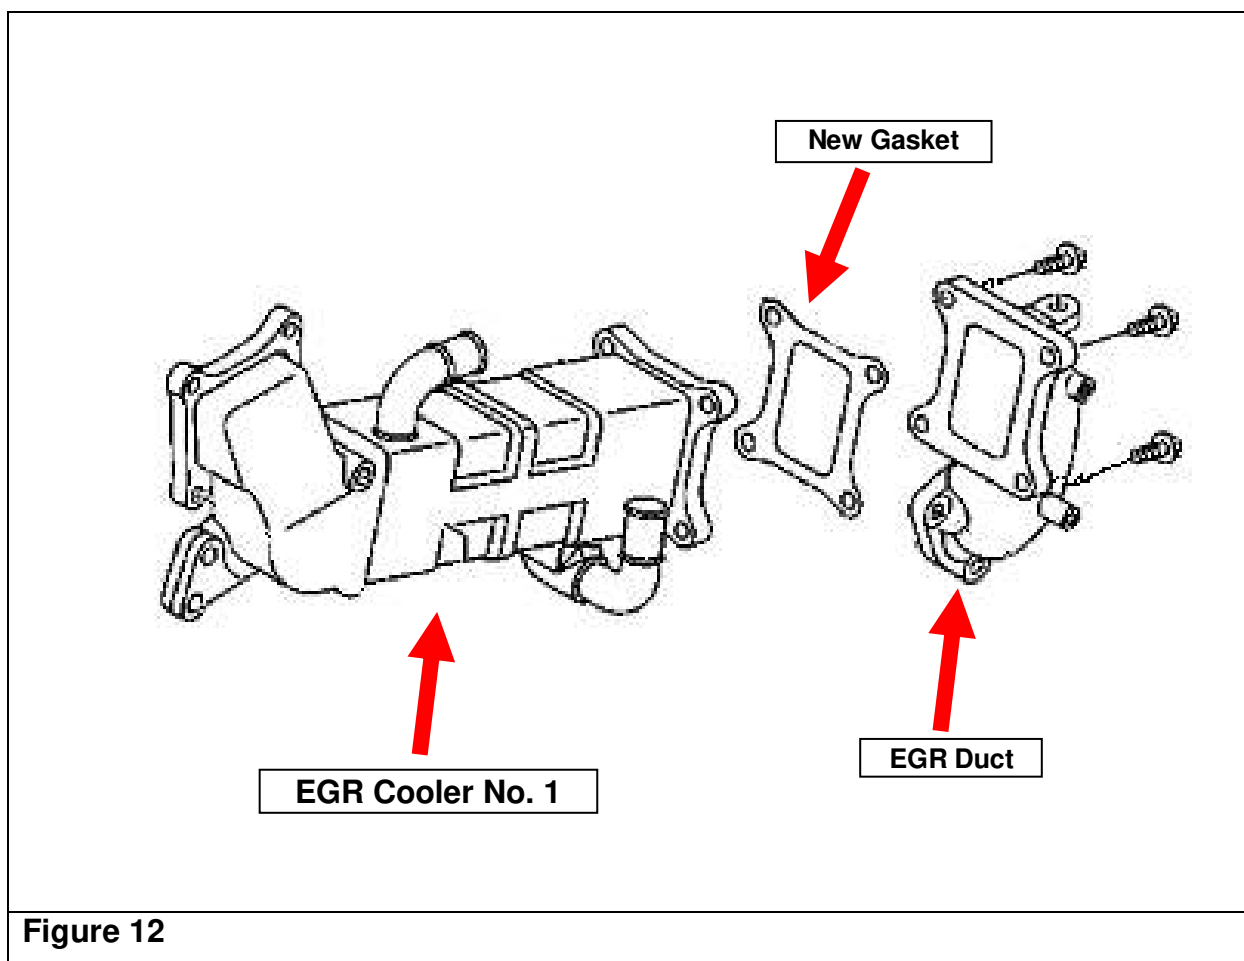

Figure 12
15. Slide a new gasket between the EGR Duct and the Number 1 EGR Cooler and loosely thread all four (4) bolts by hand. (See Figure 12.)